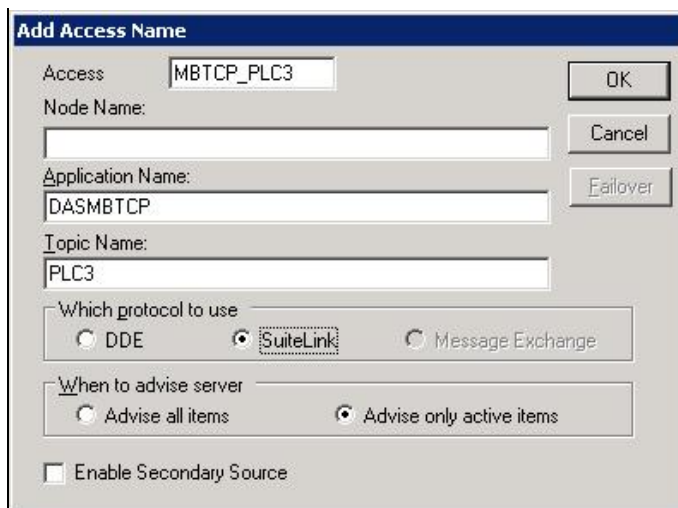

FIGURE 6: ADD ACCESS NAME
4. Type the information for the **Access** and **Application Name** field as it appears in Figure 6 (above).